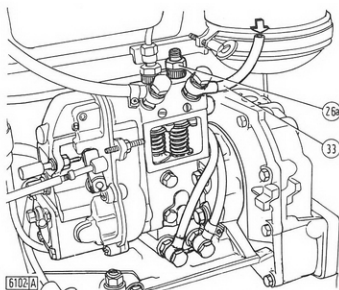

Fig. 53 - Checking Injection Pump Timing by the Overflow Procedure
- Remove the delivery connector on pump element No. 1 (26a, Fig. 53), and remove the delivery valve, spring and restrictor. Refit the delivery connector.